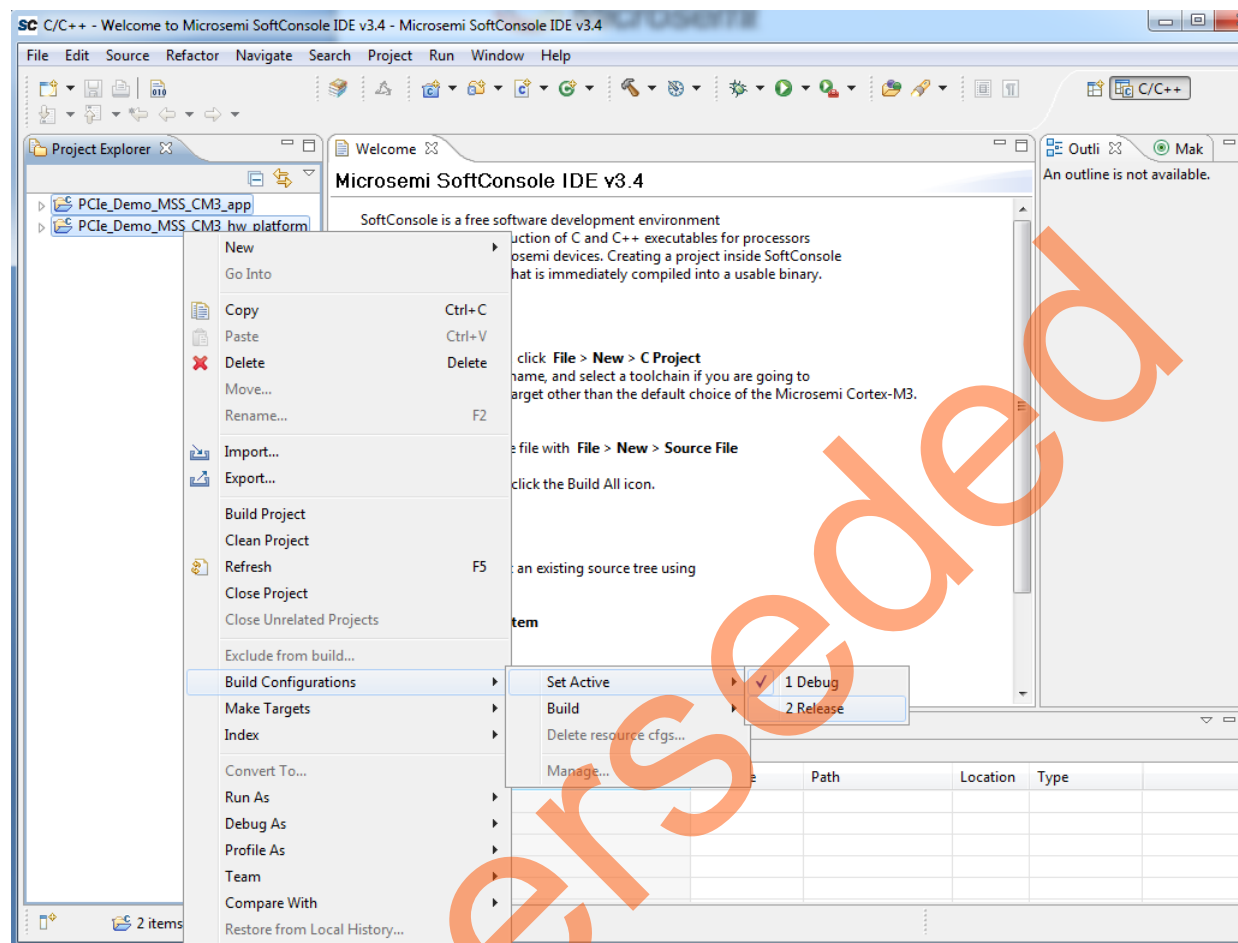

Figure 34 • Release Mode Option
4. Right-click and select **Build Configurations > Set Active > Release** as shown in Figure 34.